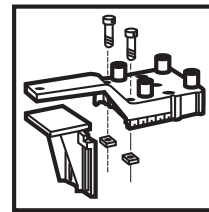

Figure 37
- Attach the angle piece to the dowel jig using the screws and square nuts. Insert the screws through the two holes on the top of the jig and attach the square nuts to the bottom. Do not tighten. Slide the angle piece into the slot between the bottom of the jig and the square nut. Keep the angle piece slightly loose. See Figure 37.